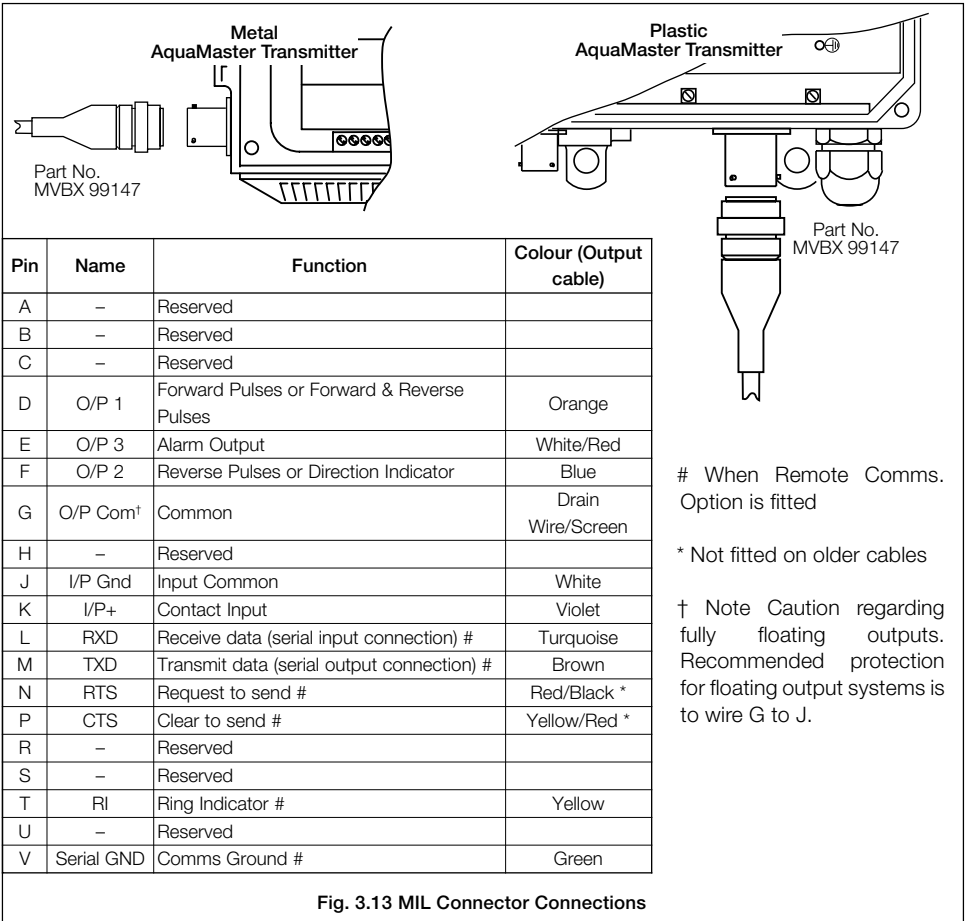

Fig. 3.13 MIL Connector Connections
3.3.3 MIL Connector Input/Output Connections (Option) – Fig. 3.13